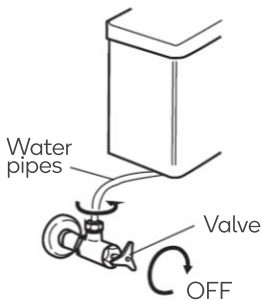

Figure 1
- Lock inlet valve to remove water pipe (Figure 1).